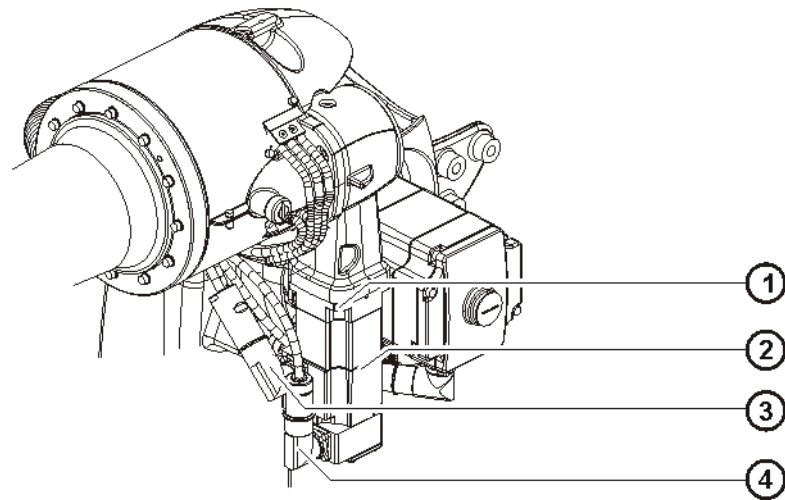

Fig. 11-19: Removing motor A4
1. Release and unplug connectors XM4 and XP4 from motor A4 (>>> Fig. 11-19).